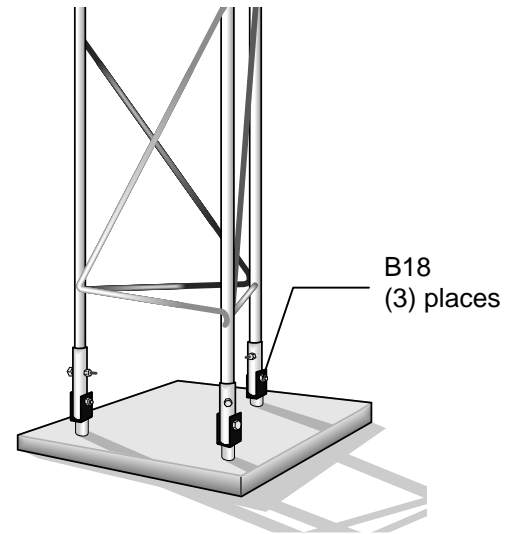

FIGURE 2.1-4. B18 Concrete Mounting Base
4. Center the bottom tower section with the base attached in the hole. Orient the tower/base for the proper hinge direction. Make sure that the top of the legs will be at least 1/2" above the finished height of the concrete (Figure 2.1-4).